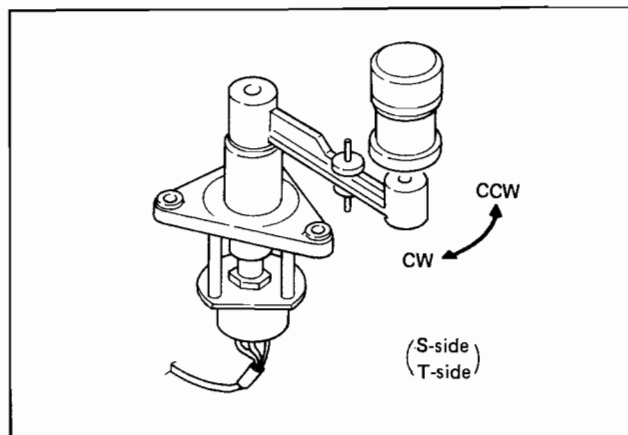

Fig. 5-1-3.
- Remove the positioning tool. Turn the tension lever clockwise for an angle of 30° from 0 point and confirm that the voltmeter indicates minus, and also turn it counterclockwise for an angle of 30° and confirm that the voltmeter indicates plus. (See Fig. 5-1-3)